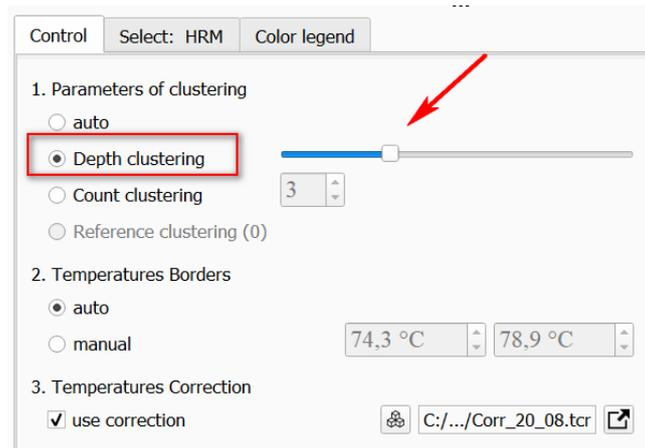

Figure 91 – Changing the **Depth clustering** parameter in the settings
- Depth clustering – an analysis setting that allows you to change the number of distinguished clusters by setting the sensitivity threshold of cluster analysis. To apply the setting, move the cursor and left-click on the **Depth clustering** switch. Clustering depth is changed by moving the slider (fig. 91).